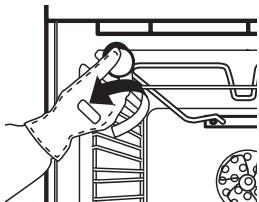

Fig. 5
- Unscrew the lamp cover (Fig. 5), replace